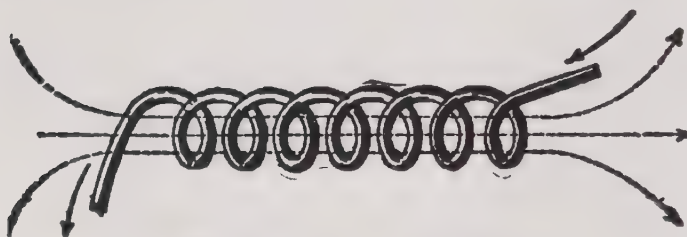
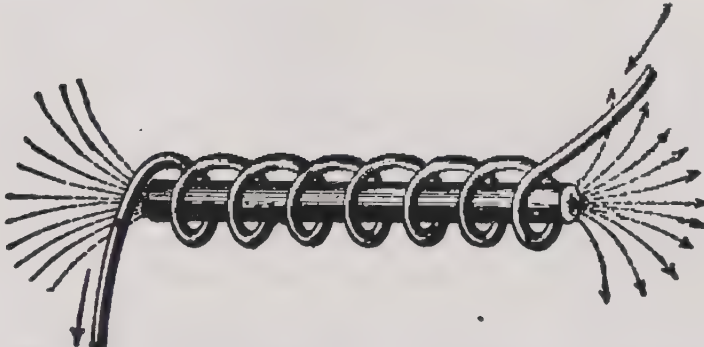

Fig. 99. Flux in a Solenoid.
Fig. 100. Flux in a Magnet: i. e., a Solenoid with Iron Core.
- (1) Material of core.
- (2) Length of core.
- (3) Number of turns of wire in coil.
- (4) Current in coil.
- (5) Shape of magnet.
*Answer.* To answer this clearly let us go back a little. A solenoid such as shown in Fig. 99 has a certain flux whose density is calculated by the following rule.
Let us take a solenoid like Fig. 99 and slip a wrought iron core into it making a magnet as in Fig. 100. Have the area of the bars' end one square inch (a bar  $1\frac{1}{8}$  inches in diameter has a cross section of practically 1 square inch).